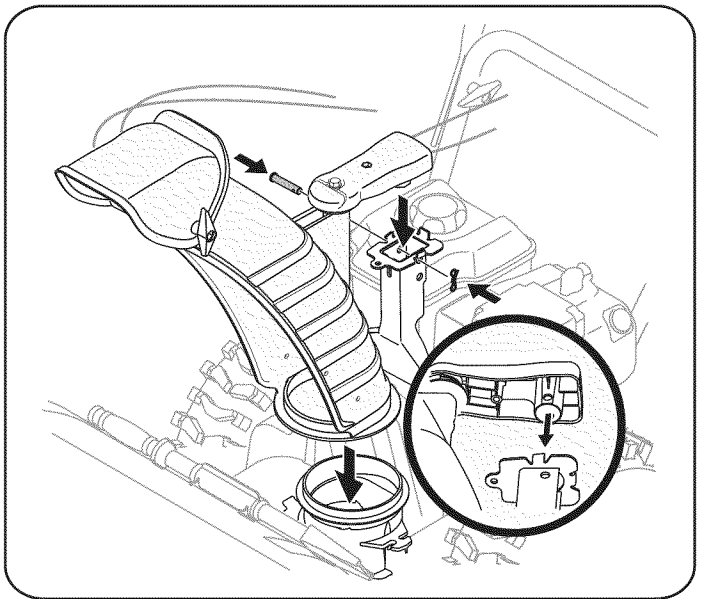

Figure 3
4. Place chute assembly onto chute base and secure chute control assembly to chute support bracket with clevis pin and cotter pin removed earlier. See Figure 3.